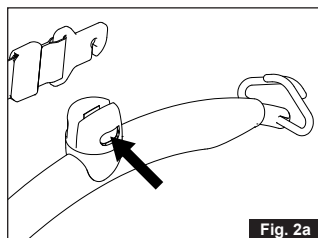

Fig. 2a
1. Press the yellow button and hold it in while the lifting strap's hook is inserted into the opening of the top cover of the lifting hanger (*fig. 2a - 2b*).